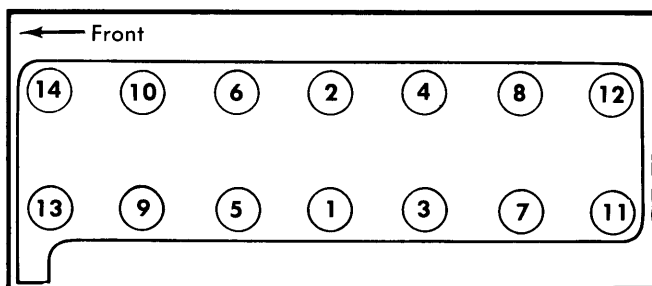

Fig. 2 Cylinder Head Tightening Sequence (Loosen in Reverse Sequence)
3) Tighten head bolts in several steps in the sequence illustrated in Fig. 2 to final specified torque. Recheck torque after engine has been running for several minutes.